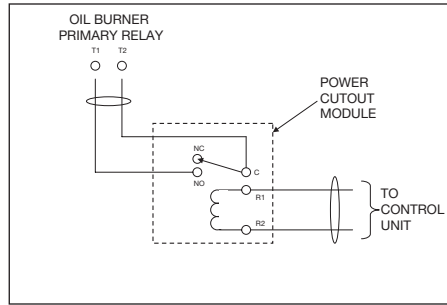
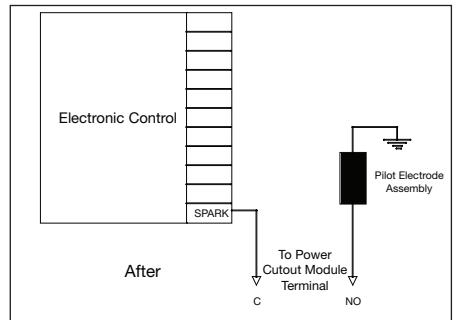
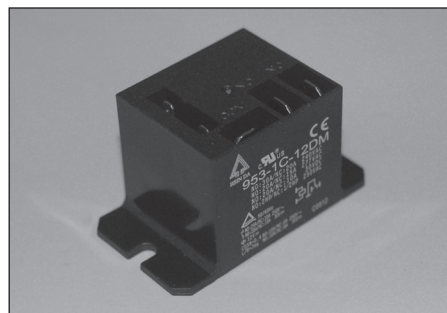
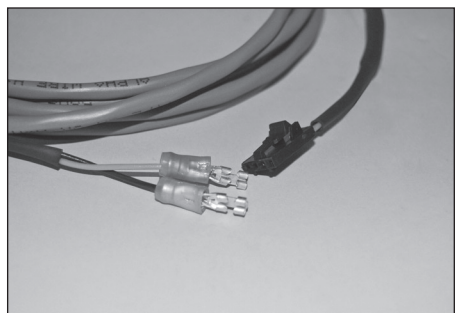

Figure 8
Figure 12
Figure 14
Figure 15
3. Using two conductor thermostat cable (supplied by the installer) install the spade terminals to one side of the cable and fasten terminals to the other side of the cable. Connect the cable from the Power Cutout Module Terminal C (common) and NO (normally open) to the TT terminals on the Oil burner Primary Relay as indicated in **Figures 8 and 9**. Install the connecting cable **Figure 15** to the Power Cutout Module terminals R1 and R2. Route the connecting cable to the Control Unit and insert the interlocking connector end to the circuit board.
3. Using two-conductor thermostat cable, install the spade terminals to one side of the cable and then fasten terminals to the other side of the cable. Connect the cable from the Power Cutout Module **Figure 14** Terminal C (common) to the SPARK terminal of the Electronic Control and NO (normally open) to the Pilot Electrode Assembly as indicated in Diagram 2, **Figures 12 and 13**. Note: We have made every effort to provide all of the hardware required for a complete installation. However, the terminal connections used to connect the Pilot Electrode Assembly to the Electronic Control vary by manufacturer, although we have included several connectors used by leading manufacturers with your WDS, your specific mating connectors may not be included. If the required connector is not included, it may be purchased locally at any electronic supply store. Install the Connecting Cable **Figure 15** to the Power Cutout Module terminals and R1 and R2, route the Connecting Cable to the Control Unit and insert the interlocking connector end to the circuit board.